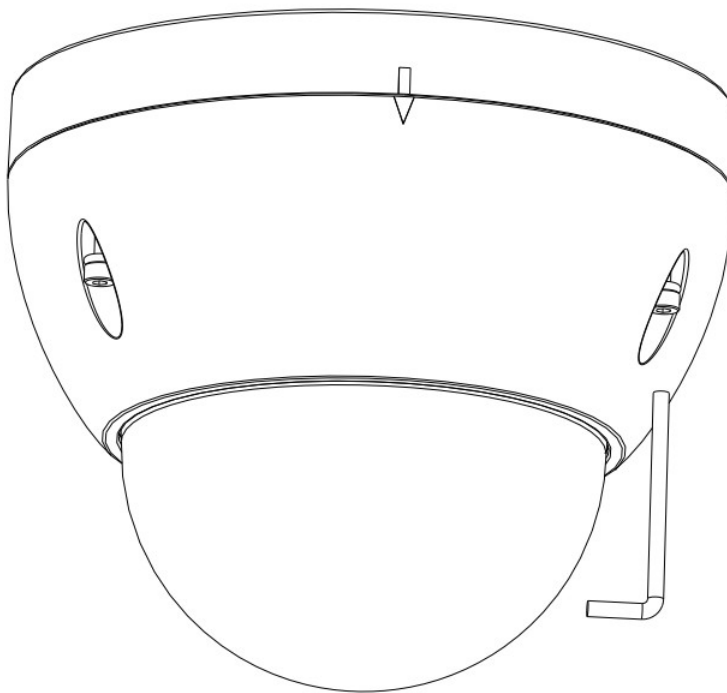

Figure 3-3
- 4) In Figure 3-3, use three screws (provided) to secure the external enclosure on the pedestal and fix firmly,